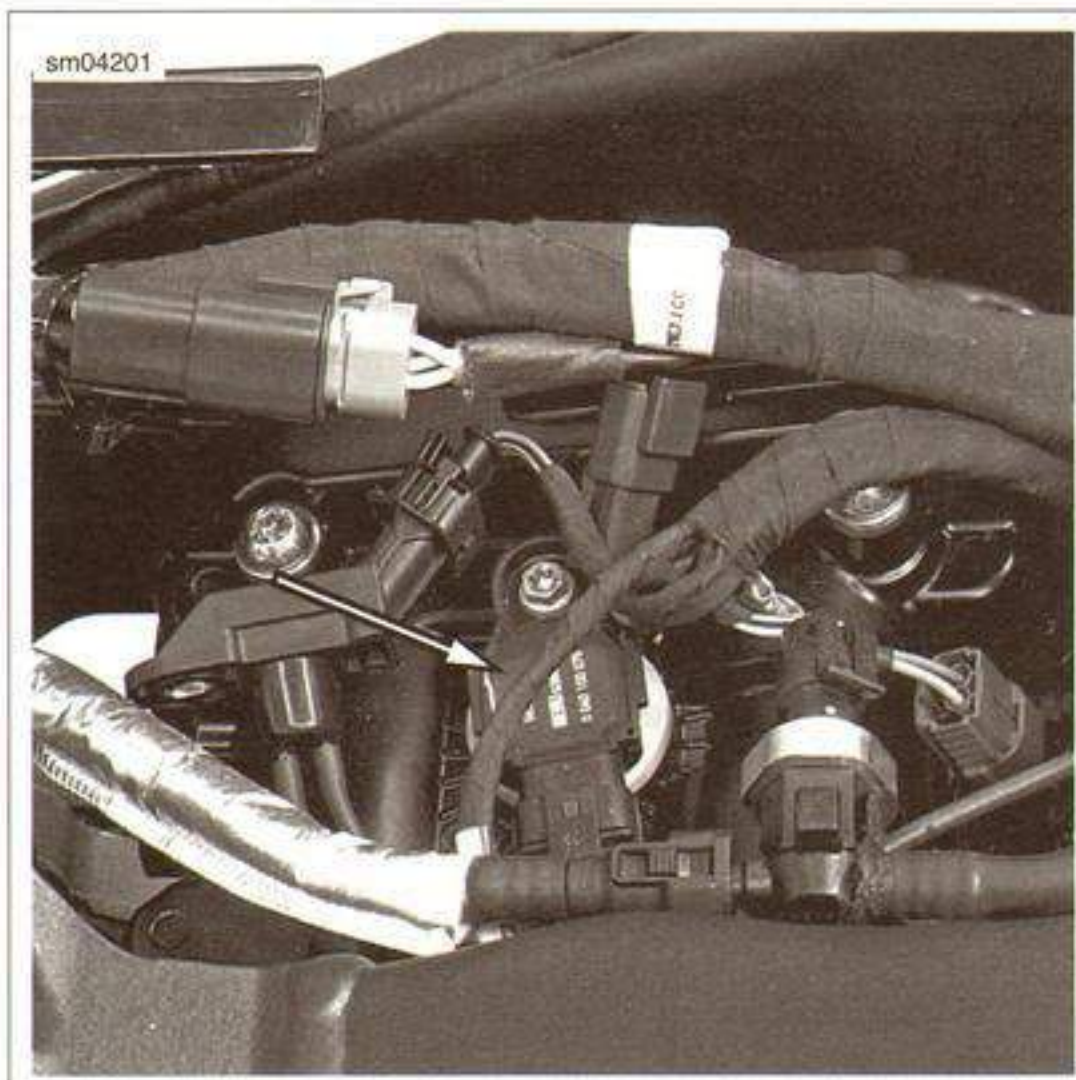

Figure 1-39. Rear Spark Plug Location
1. See Figure 1-39. To access the rear spark plug, remove the air cleaner baseplate.